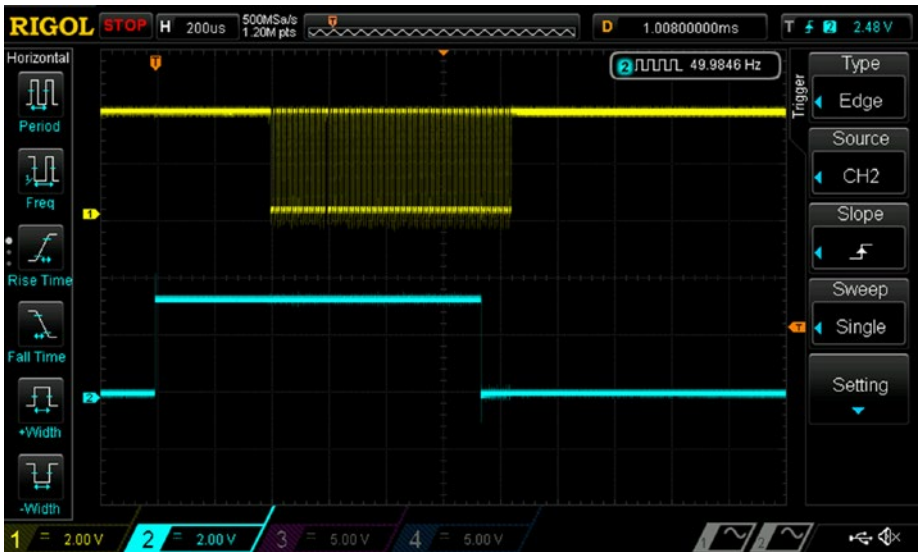

**Figure 9-5.** *Interrupt latency and data read time*
One final subject relevant to interrupt handling is shown in Figure 9-5. The time interval between the interrupt signal and when the interrupt handler `readPrintGyroRaw` began reading data was a bit less than 400 microseconds. Not bad! In addition, you can see that it took a bit over 800 microseconds to read the data. Again, not bad!
**Note** After completing this chapter, I decided to try to change the I2C clock frequency from the default 100 kHz to 400 kHz per the instructions in Chapter 7. It worked on my Raspberry Pi 3 B+. As expected, afterward, it took a bit over 200 microseconds to read the data vs. the 800 microseconds in Figure 9-5.